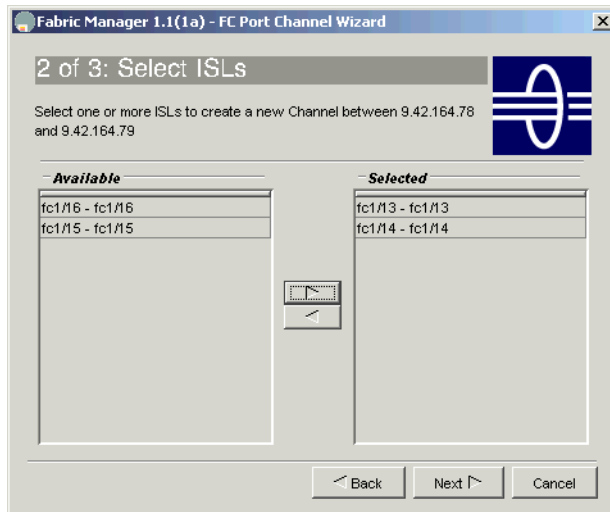

Figure 2-83 Creating a PortChannel 2
2. Select the (E)ISLs you want to use for the PortChannel, as shown in Figure 2-83, and click **Next**.